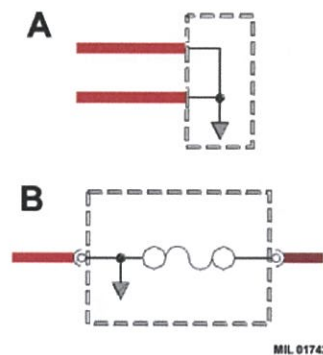

Fig 6 Line types II
12 The “cup and ball” symbol indicates the male and female halves of the connector (refer to Fig 6).
- 12.1 Plug on lead, fly lead (Fig 6 (A)), wired directly to the component.
- 12.2 Connector plugs directly into circuit (Fig 6 (B)).